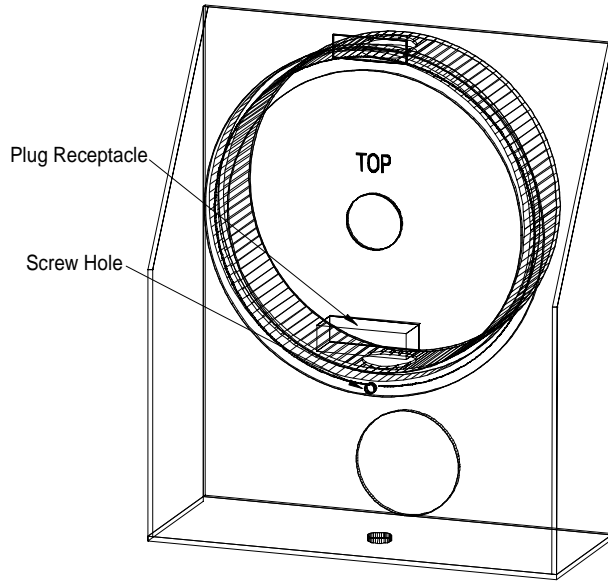

Figure 12 Mounting Bracket with Back Box and Signal Mounting Plate Attached
11. Align the holes in the horn signal mounting plate with the mounting screw holes in the back box bosses. The word "TOP" on the horn signal mounting plate and the back box should be oriented in the same direction and the screw hole on the bottom edge of the horn signal mounting plate should be directly over the gap in the back box gasket as seen in figure 12.